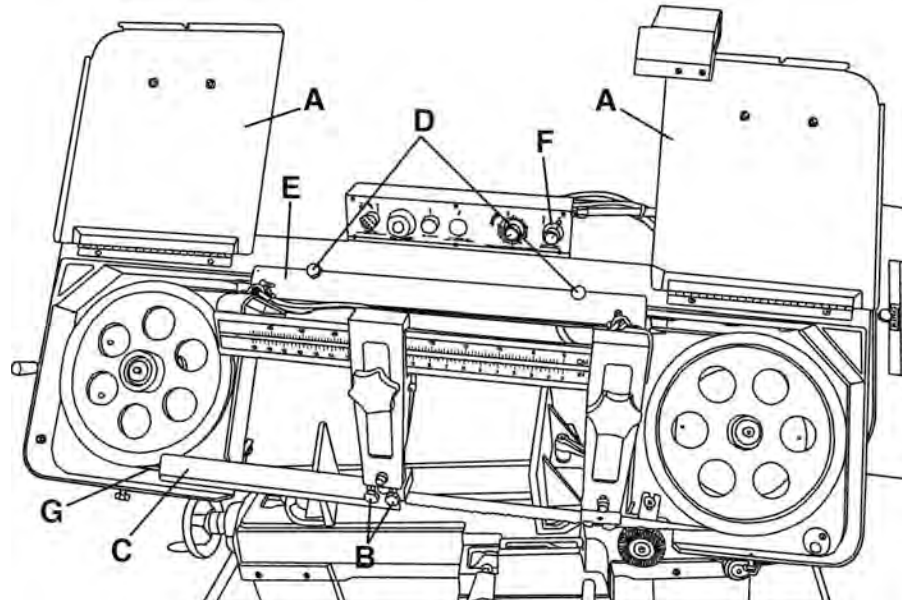

FIGURE 23
2. Raise the saw frame about 6" and turn the hydraulic shut-off valve knob (F) Fig.23 to the right (red symbol) to keep the saw frame in this position.
3. Open both wheel covers (A) Fig.23 and clean the debris out of the machine.
5. Loosen two lock knobs (B) and remove blade guard (C).
6. Remove two lock knobs (D) and remove top blade guard (E).
7. Remove the blade (G) from both wheels and out of each blade guide.